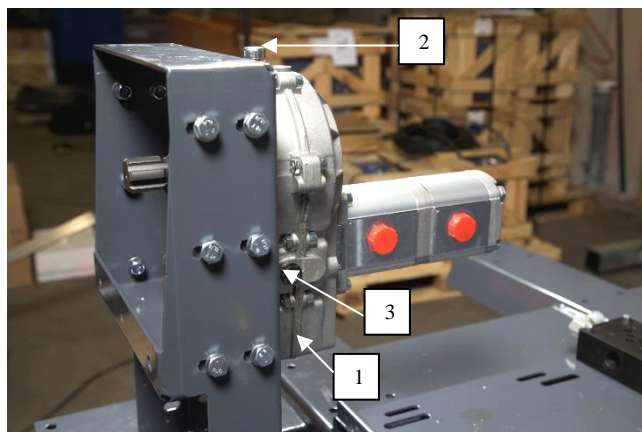

Figure 61 Multiplier gear
Open the plug in the bottom (Figure 61, pos 1) and remove the old oil.
Open the filling plug (Figure 61, pos 2).
Check the oil level from the checking plug (Figure 61, pos 3).